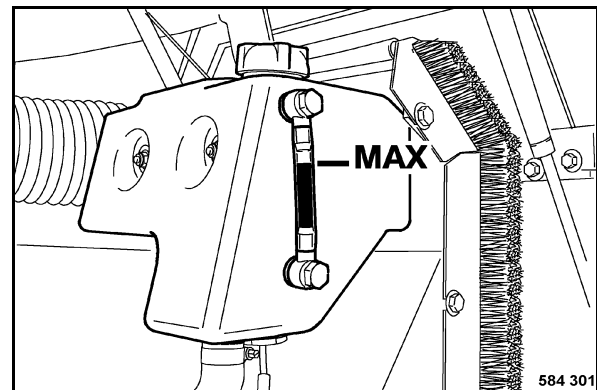

Fig. 124
- Check the coolant level (Fig. 124).